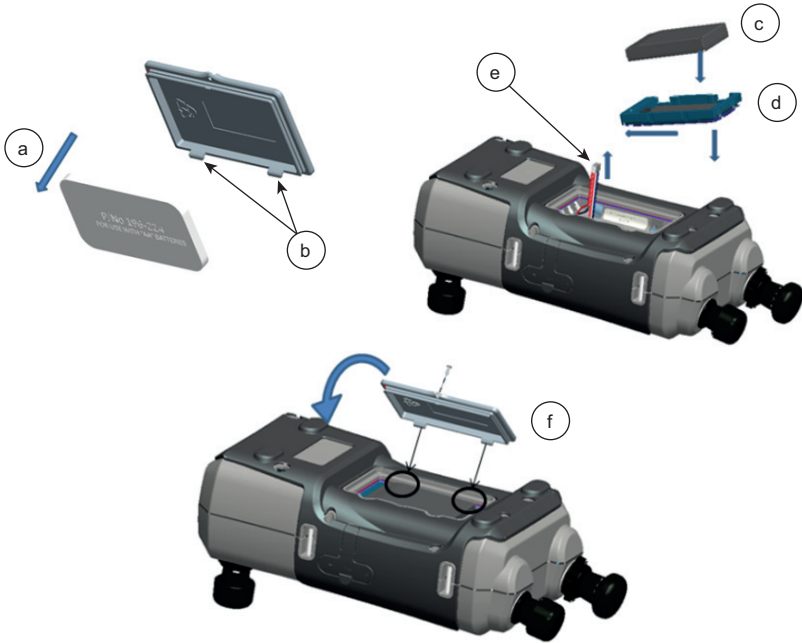

Figure 1-1: Fit Rechargeable Battery Pack
6. Replace the battery cover by pressing the lugs (b) inside the slots (f) and bring down the cover, securing by tightening the fixing screw. (See Figure 1-1).